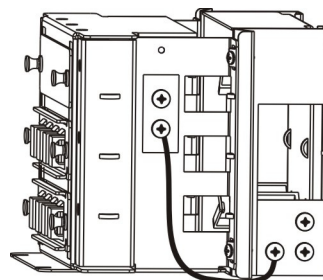

Figure 5. Ground Screws
The VMC03-000 has two (2) ground screws spaced $\frac{5}{8}$ " for a standard ground wire or lug. A ground wire is supplied for proper grounding between the front and back sections of the VMC03-000. All grounding should follow Service Providers practices and local codes. Connect the appropriate size ground wire to the unit using the supplied ground screws on the right side of housing. Refer to Figure 5.